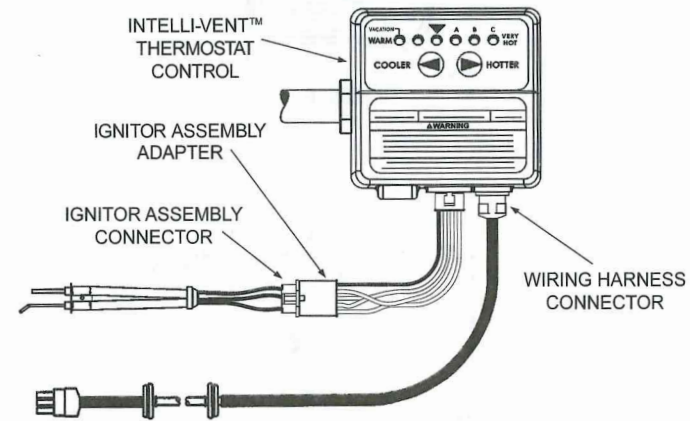

FIGURE 13.
18. Locate the "Ignitor Assembly Adapter" from the replacement kit and plug the male end into the Intelli-vent™ Thermostat Control, (184960 Series), see Figure 13. Note: The connector is "keyed" so it can only be inserted one way. Make sure the connector is properly aligned before attempting to insert. Do not force the connector or damage to the control will result.
19. Locate the wiring harness and connector that comes out of the combustion chamber of the water heater and plug the male end of the connector into the female end of the "Ignitor Assembly Adapter", see Figure 13.